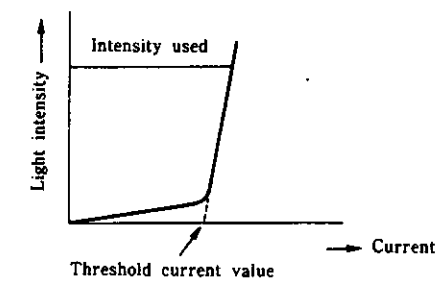

Fig. 12
5. Precautions at time of servicing (Fig. 12)
The semiconductor laser is very susceptible to static electricity destruction and surge currents. Be careful never to touch the terminals of the semiconductor laser and the terminals of the flexible board with your hands or a tool. As illustrated in Fig. 12, the current and light intensity characteristics increase abruptly once the threshold current value is exceeded. Also note that this threshold current differs a little from laser to laser. In view of this, when replacing the unit mechanism or any work that involves setting the amount of light of the laser, be sure to turn the adjustment control VR401 fully in the counterclockwise direction, and then raise it to the specified value.